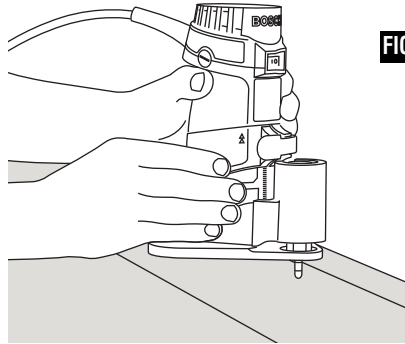

FIG. 23
The PR004 Offset Base is designed for routing in confined areas, especially for trimming laminates in areas that are inaccessible with the standard fixed base, such as locations that are close to adjacent vertical surfaces like as the tops of already-installed counter backsplash backsplashes (Fig. 23).
1. The offset router should be gripped with one hand gripping the motor gripping area and the other hand gripping the back of the base housing (Fig. 23) or gripping the top of the offset spindle.